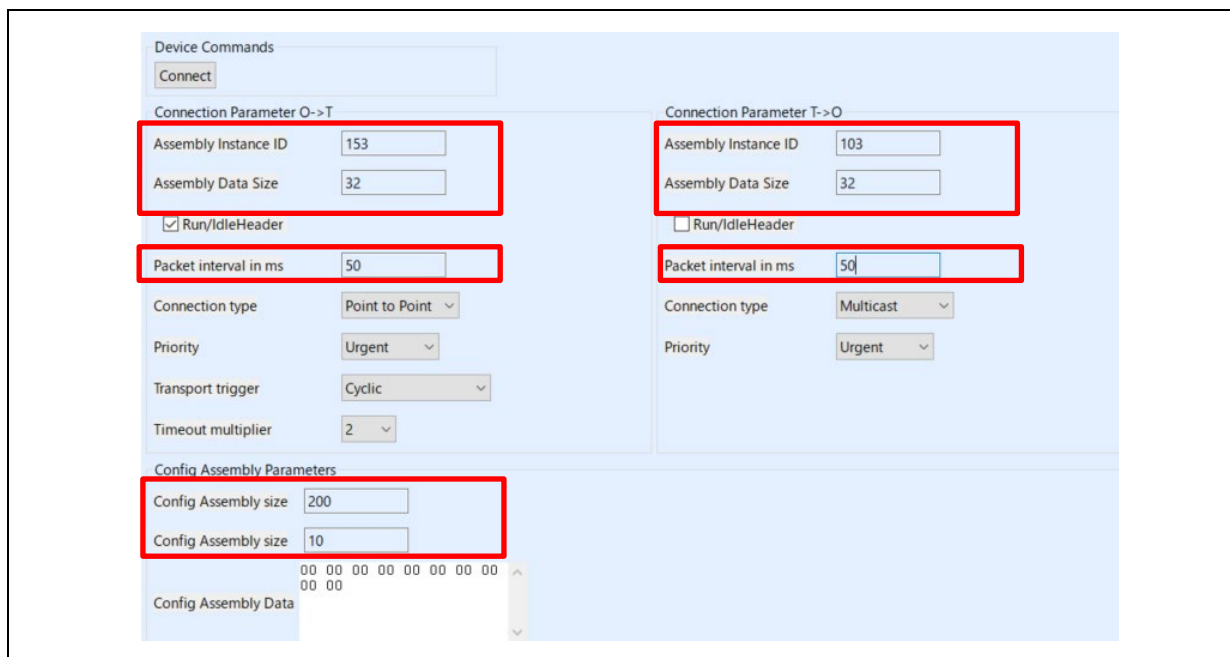

Figure 3-42 Mirror application (RPC) parameter
Refer to Table 3-12 and Table 3-13 to set the connection parameters. Figure 3-42 shows an example of a communication configuration for Mirror Data Reception_2 (153) and Mirror Data Transmission_2 (103).